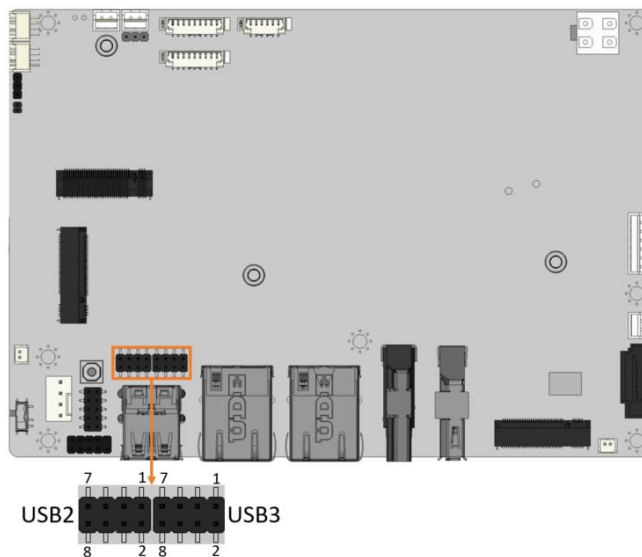

Figure 3-18: Internal USB 2.0 Connectors Locations
- CN Location:** See **Figure 3-18**